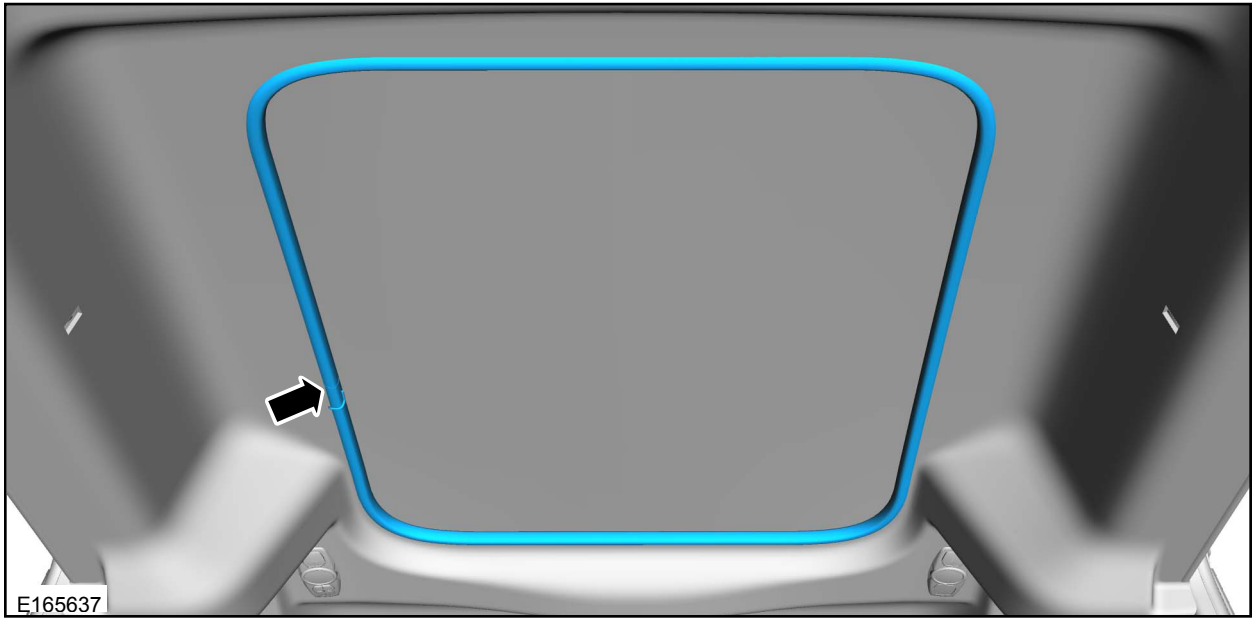

FIGURE 2
3. Remove the sunroof seal. See Figure 2.
19. Install the sunroof seal. See Figure 2.